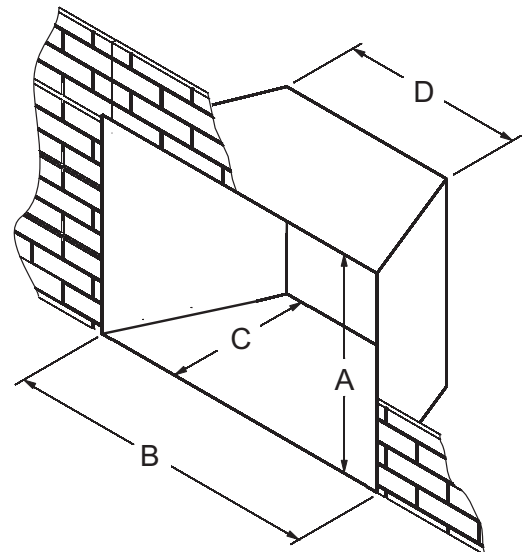

Figure 2
1. To begin, remove the glass door from the unit. Note: The glass door assembly is secured to the firebox with two (2) spring clamps at the top of the door, and two (2) spring clamps at the bottom of the door. Check to make sure there is no hidden damage to the unit. Take a minute and plan out the gas, venting and electrical route. It is best to start with the gas line first, followed by the chimney liner and electrical supply requirements.
2. Minimum fireplace opening requirements are shown in **Figure 2** of this installation manual. The firebrick (refractory), glass doors, screen rails, screen mesh and log grates can be removed from a factory built fireplace in order to gain minimum gas insert opening requirements prior to installing the gas fireplace insert.